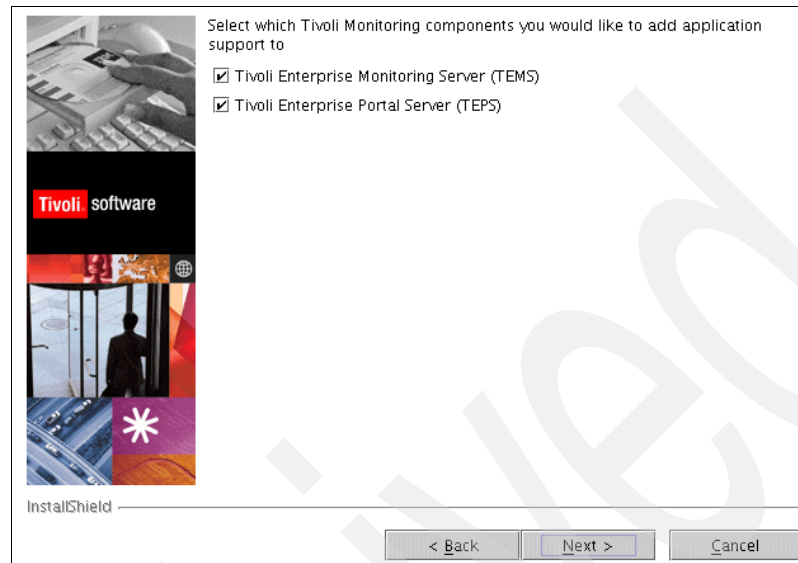

Figure 3-59 Installation options
3. Specify the configuration action. Depending on the feature that is installed on the machine, you can select either or both of the options in Figure 3-59.